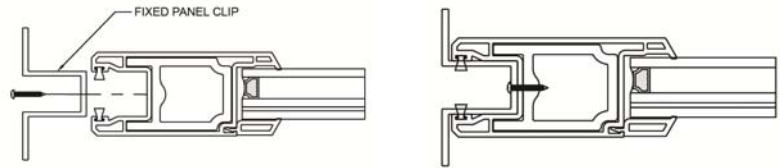

Figure 24a
24. Each fixed panel has a single 6" fixed panel clip (Item 15) installed at the midspan. Push the clip into the fixed panel stile and secure in place using three (3) screws (Item 45, Figure 24a).